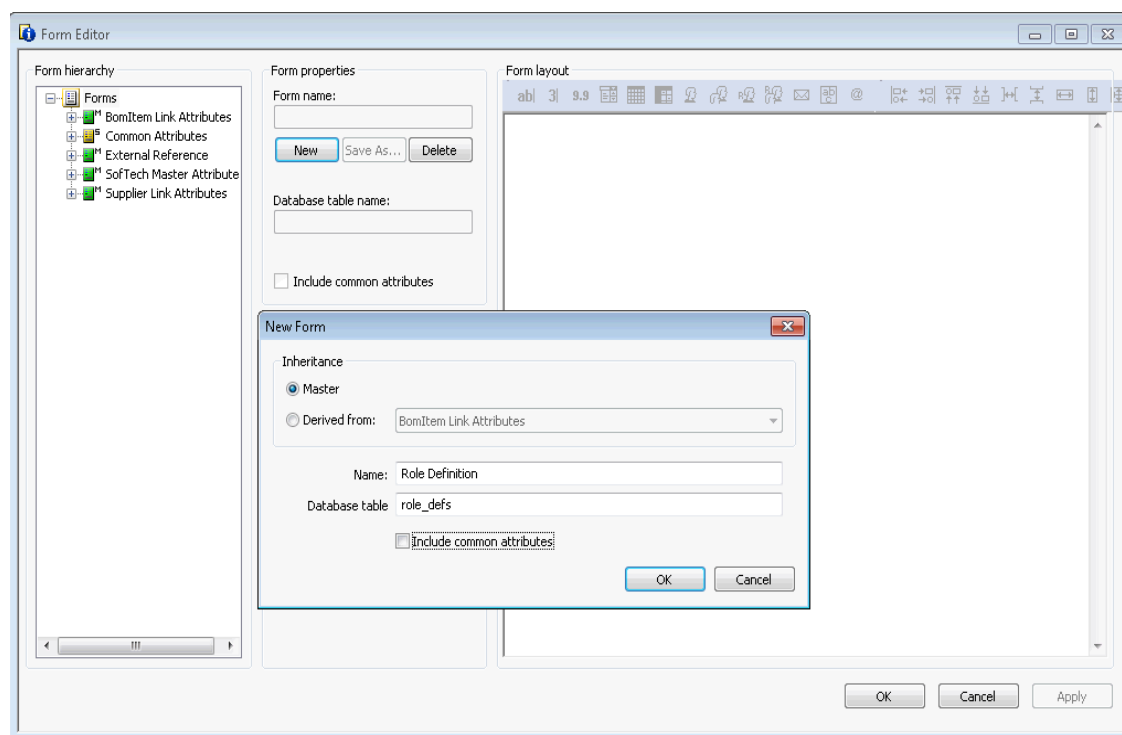

Figure A-1: Defining a form for roles.
3. Create a new form by clicking the **New** button and filling out the New Form window (see Figure A-1). Make sure **Master** is selected, clear the check box for including common attributes, and call the form and its associated database table something that reflects its purpose, such as “Role Definitions” and “role_defs”. Click **OK** when done to return to the Form Editor.